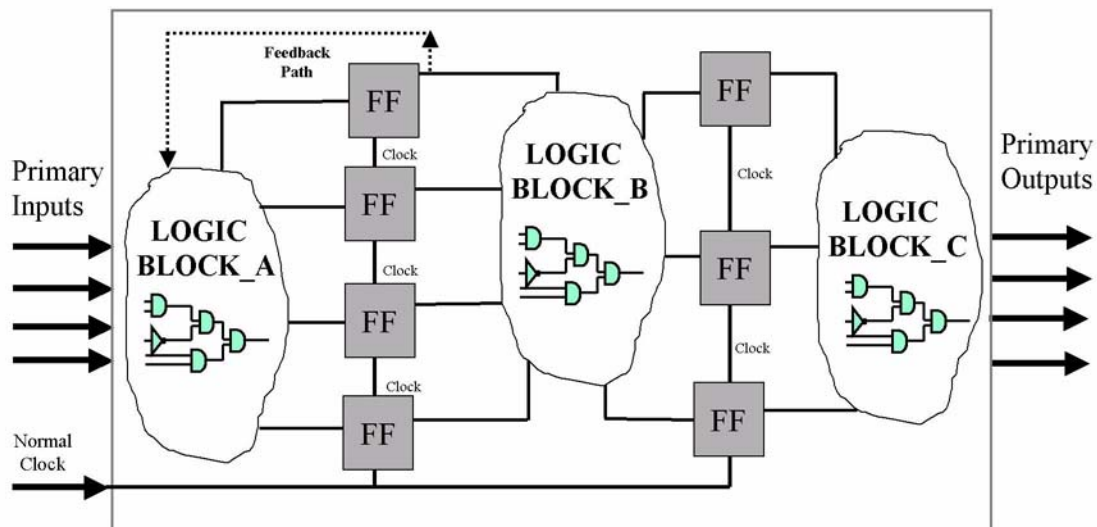
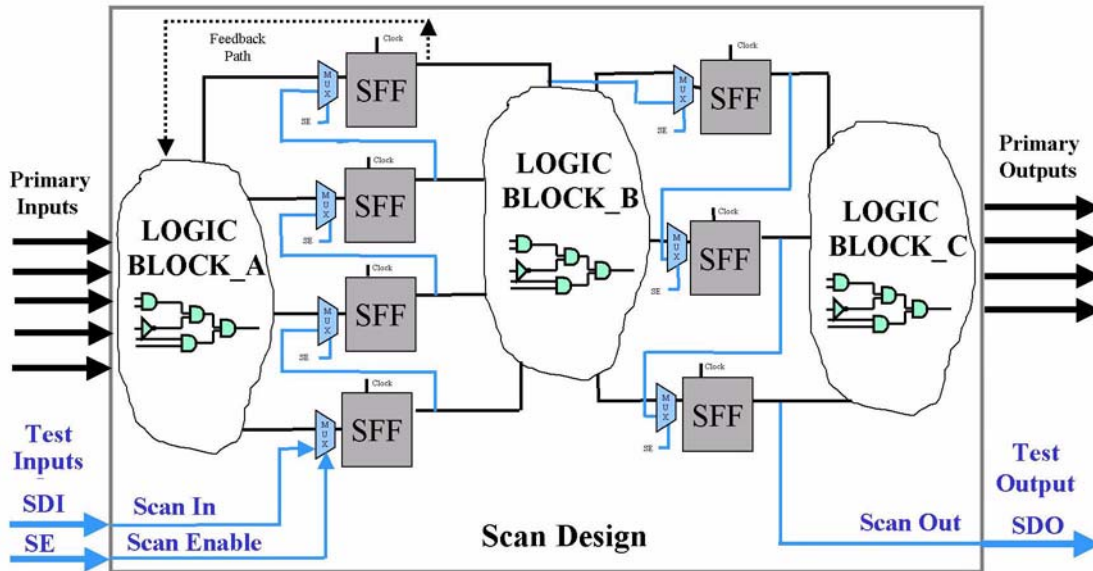

Figure 2-2 Non-Scan Circuit
Figure 2-4 Circuit with Scan
Figure 2-2 illustrates a simple circuit containing several blocks of logic, each with its own function, and the associated sequential logic shown as “FF” (flip-flops). Ideally each logic block will be exhaustively tested for faults.
Figure 2-4 shows the same circuit as Figure 2-2 on page 2-3 only with Scan logic inserted. Notice that each D flop has been modified to a Scan flop, then linked together to form a chain. Three pins have been added: Serial Data In (SDI) connected to the mux input of the first flop in the chain, Serial Data Out (SDO) connected to the output of the last flop in the chain, and Scan Enable (SE) connected to the mux control of each flop.